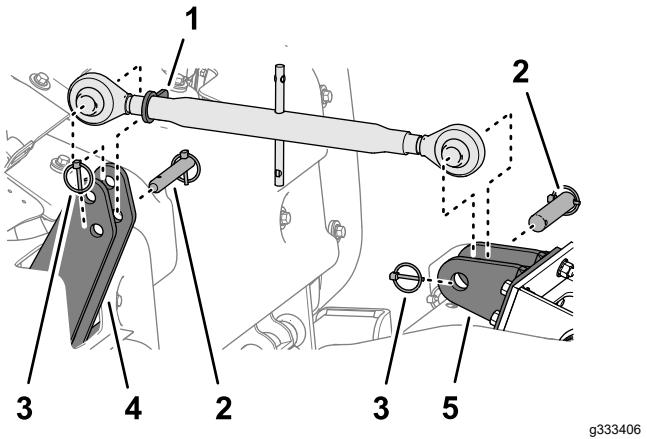

Figure 48
- Loosen the locking nut (Figure 48) and rotate the upper adjusting link to release the tension between the machine and the traction unit.
- Remove the lynch pin and the link pin that secures the upper adjusting link to the upper hitch plates of the machine (Figure 48).
- Remove the lynch pin and the link pin that secures the upper adjusting link to the link bracket of the traction unit (Figure 48).